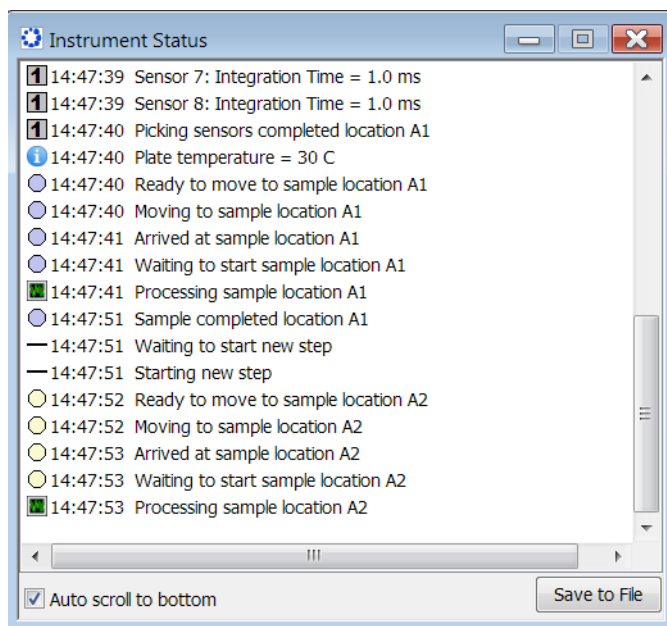

Figure 9-58: Instrument Status Log
- Optional: Click **View > Instrument Status** to view the log file (see Figure 9-58).